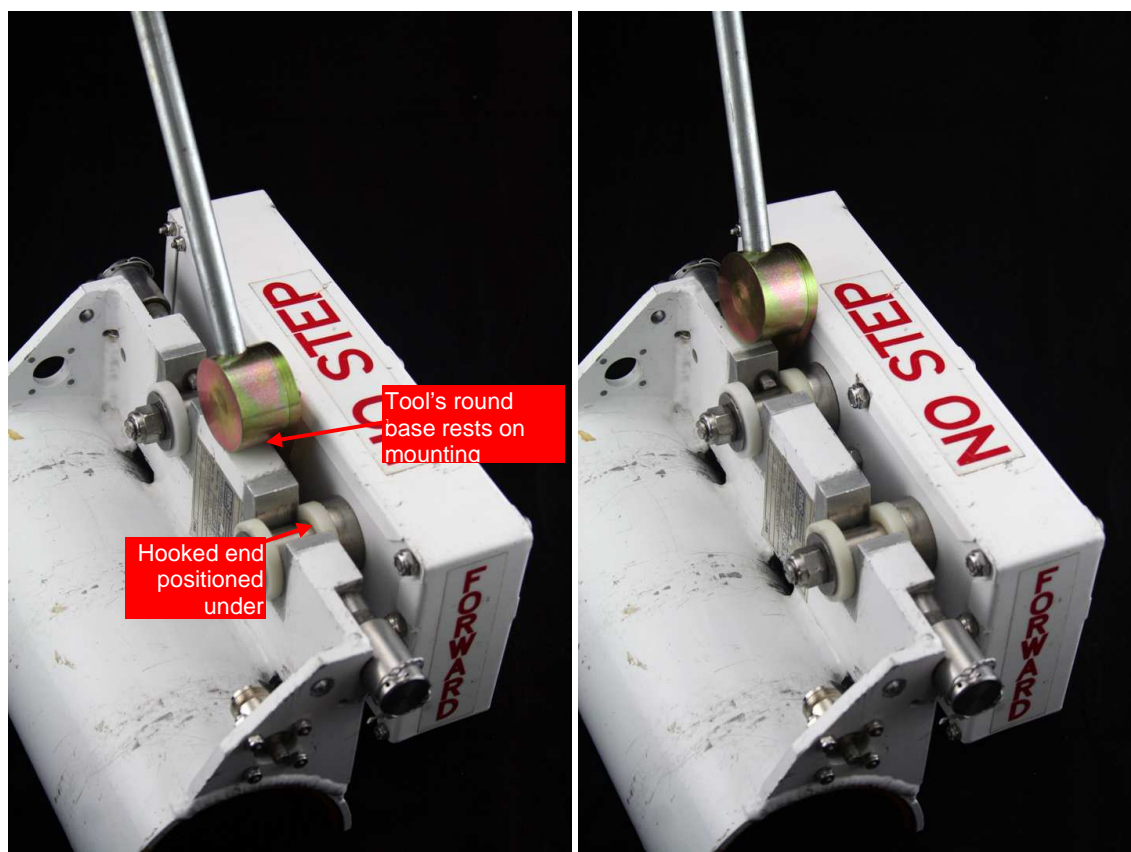

Figure 25. Using the actuator removal tool on forward and rear pins
1. Insert the tool's hooked end under the actuator mounting pin washer, as shown in Figure 25. Its round base should rest on the mounting bracket. NOTE: For sealed actuators, DO NOT place the hooked end under the square-shaped boss.